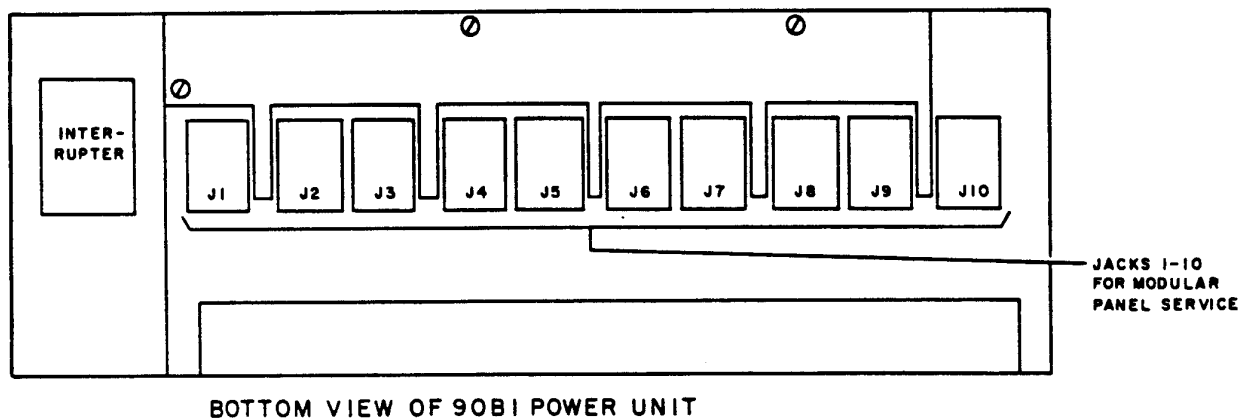

Fig. 6—♦Modular Panel Power Jacks on 79B1, 79B2, and 90B1 Power Units♦
**2.05** The 79B1, 79B2, and 90B1 power units (Fig. 6):